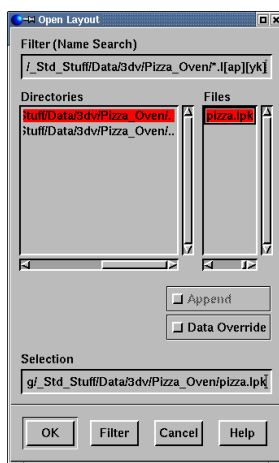

Figure 1-9. The Open Layout dialog for Motif.
1.2.5.1. File Dialogs in Motif. Figure 1-9 shows the Open Layout dialog for Motif. Near the bottom of the dialog is the Selection text field. If you know the complete path of the file you want to open or save, type it into this field and click OK.